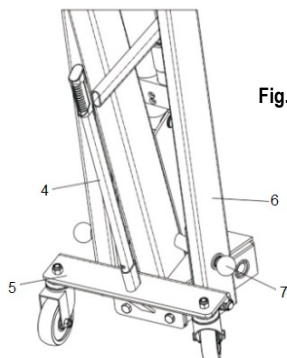

Fig. 8
4. Jib adjustment: press the button; push and pull the hook extension rod to the required length (Fig. 8).